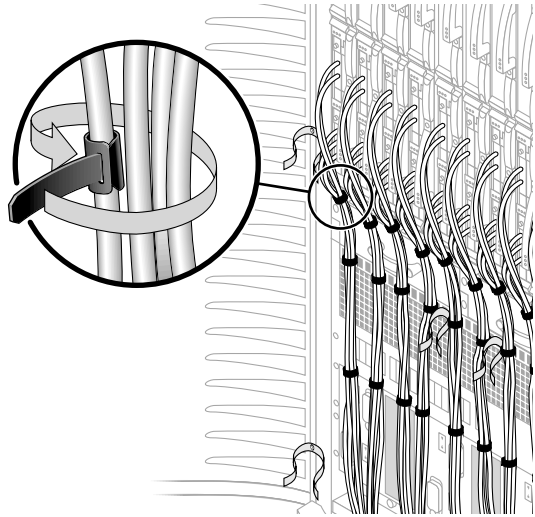

FIGURE 2 Top I/O Cable Bundle
1. For each I/O cable set, starting at the bottom of the I/O, attach a 10.0 in. (25.4 cm) black cable strap (No. 5) to one of the cables in the I/O set, using the strap insert (FIGURE 2).